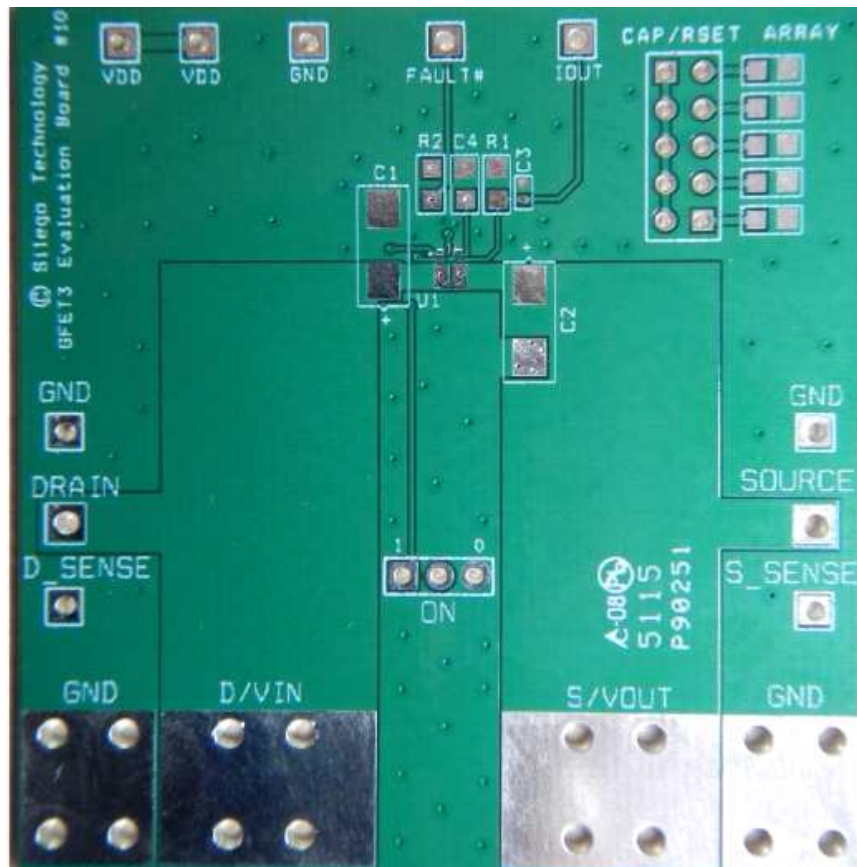

Figure 1. SLG59M1714V Evaluation Board
2. Since the VIN and VOUT pins dissipate most of the heat generated during high-load current operation, it is highly recommended to make power traces as short, direct, and wide as possible. A good practice is to make power traces with an absolute minimum widths of 15 mils (0.381 mm) per Ampere. A representative layout, shown in Figure 1, illustrates proper techniques for heat to transfer as efficiently as possible out of the device;
A GreenFET Evaluation Board for SLG59M1714V is designed according to the statements above and is illustrated on Figure 1. Please note that evaluation board has D_Sense and S_Sense pads. They cannot carry high currents and dedicated only for $R_{DS(ON)}$ evaluation.